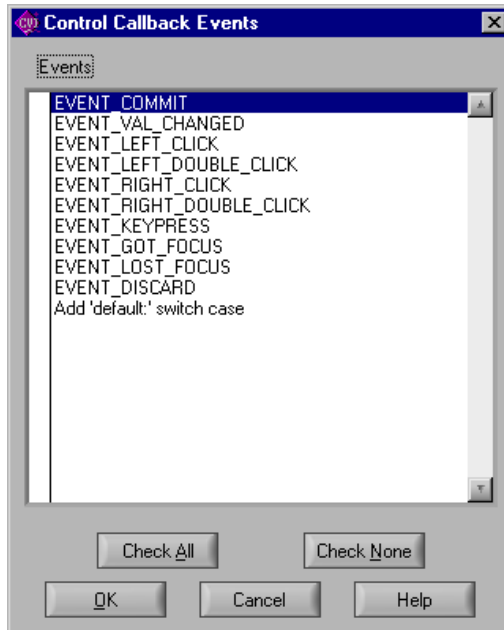

Figure 5-4. Control Callback Events Dialog Box
1. Before you use CodeBuilder, you must specify the events to which your program must respond. Select **Code»Preferences»Default Control Events**. The dialog box shown in Figure 5-4 appears, with a checkmark beside the `EVENT_COMMIT` callback event.